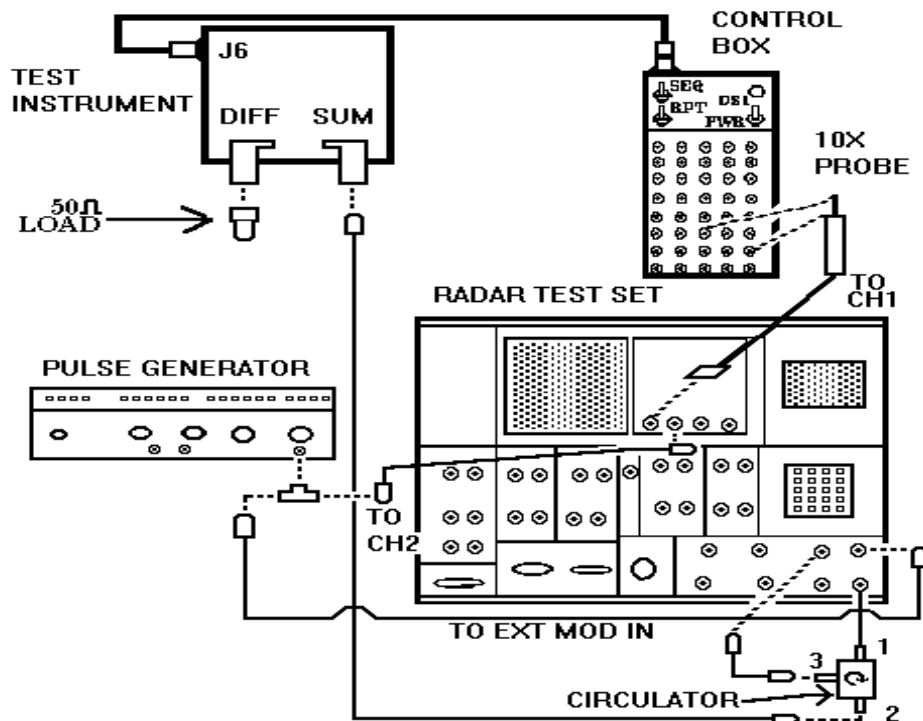

Figure 11. Receiver sensitivity - equipment setup.
- (1) Connect equipment as shown in figure 11.
- (2) Position pulse generator controls as listed in (a) through (c) below:
- (3) Set radar test set **GENERAL MENUS** menus as listed in (a) through (d) below.